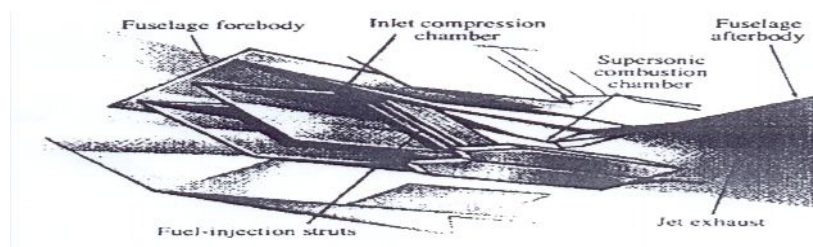

Fig.5. 3D View of Scramjet Engine
4. Shape of the aircraft is so designed that the high air pressure develops below the aircraft which provide it additional lift as shown in figure 5.